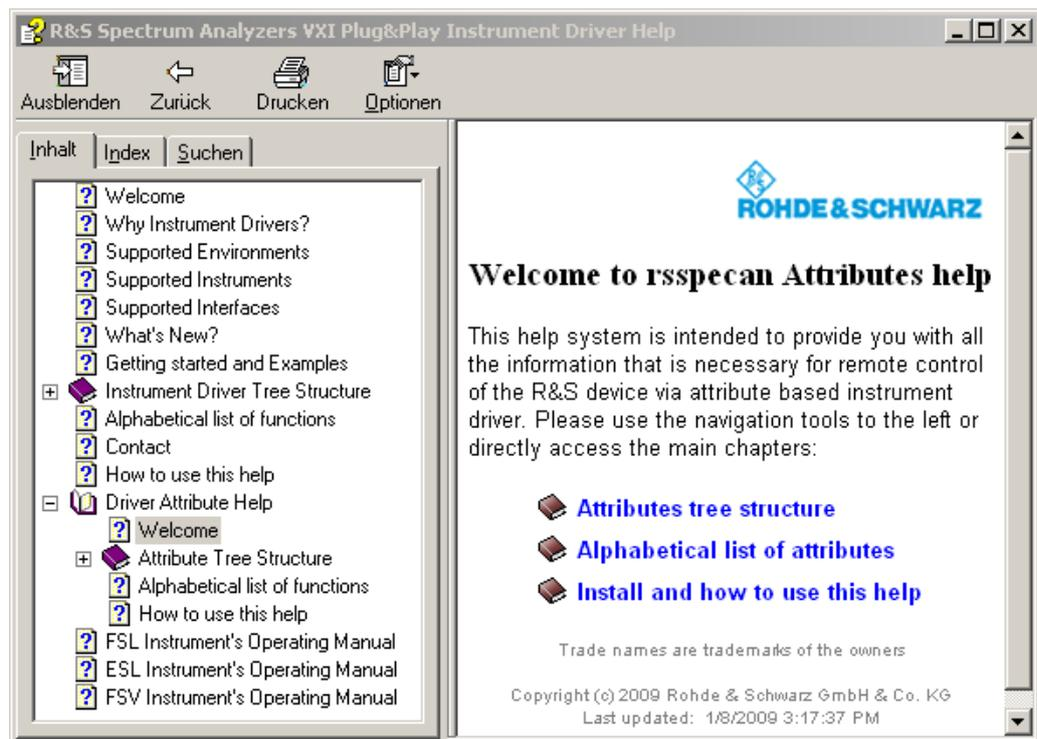

Figure 1: Mapping of attributes and driver calls within the Driver Attribute Help section.
- For attribute-based drivers (with *rsXYZ\_attr.chm*): mapping of attributes and driver calls (see Fig. 1)